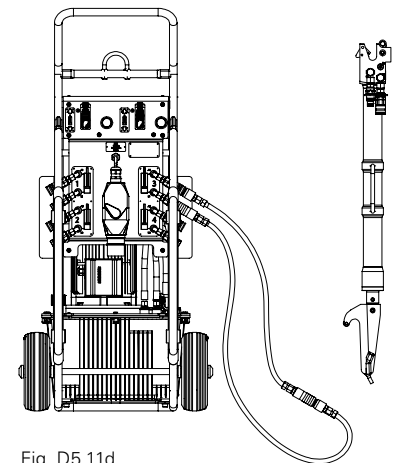

Fig. D5.11d
10. Disconnect the climbing device and once again flush the hydraulic twin hose for approx. 1 minute using a short-circuit connection. (Fig. D5.11d)